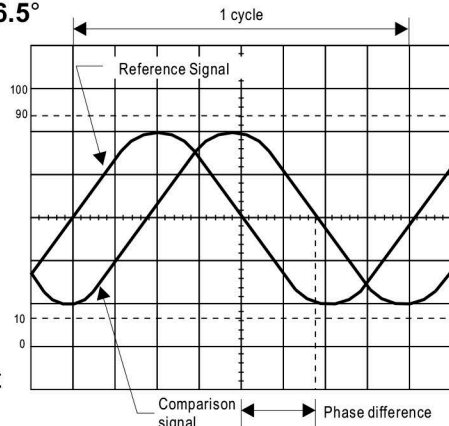

Fig.15
In the example shown in Fig.15, a period of $40 \mu\text{s}$ is observed. Substituting this value into the above equation, the frequency is calculated as follows:
(Refer to Fig.15)
3. Use the Y POSITION control to position the waveforms in the vertical center of the screen. Use the TIME/DIV and VAR SWEEP controls to adjust the display so one cycle of the reference signal occupies 8 divisions horizontally (see Fig.15). The TRIG LEVEL and X POSITION controls are useful in achieving this display. The display should be as shown in Fig.15, where one division now represents 45° in phase.
For the example shown in Fig.15, the horizontal distance is 1.7 divisions. Thus, the phase difference is calculated as follows: